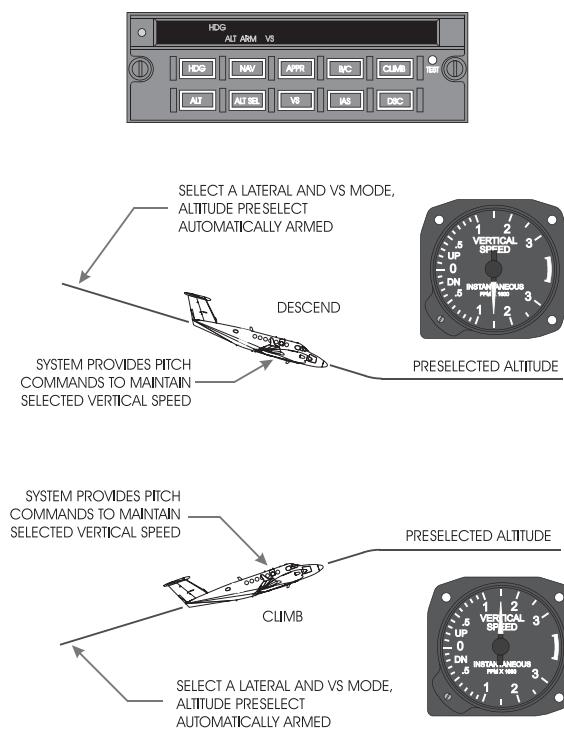

Figure 16-79 Vertical Speed Mode
The vertical speed mode (VS) is a hold mode that provides commands to maintain the vertical speed that was present at the time of mode selection (Figure 16-79). As with the other vertical modes, a lateral mode must be selected or the autopilot must be engaged before the VS mode can be selected. The VS mode reference can also be changed in 200 feet/minute increments by using the vertical control. Also using a control wheel sync and then changing the aircraft speed can be performed to change the IAS reference. The ADS-65 provides the VS mode reference.